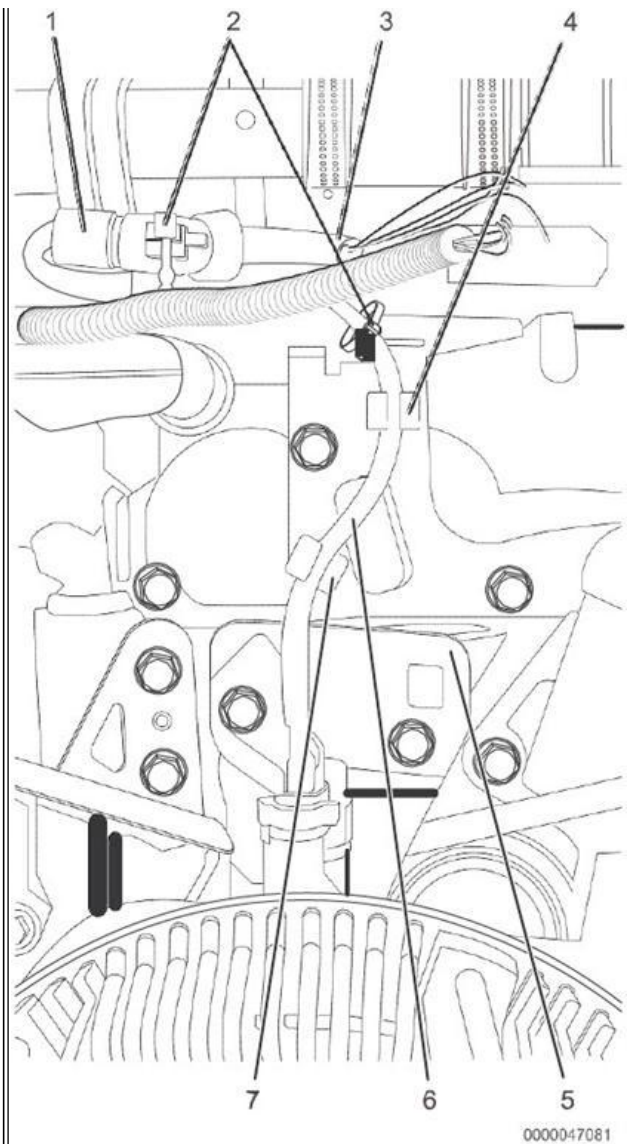

Figure 14 - Fan Clutch Harness
5. Remove two tie straps (*Figure 14, Item 2*) securing fan clutch harness (*Figure 14, Item 6*) to engine harness (*Figure 14, Item 3*) and fan clutch harness bracket (*Figure 14, Item 5*). Discard tie straps.
6. Remove harness from upper and lower push pins (*Figure 14, Items 4 and 7*).
- a. If secured with two push pins, discard lower push pin (*Figure 14, Item 7*)
7. Inspect fan clutch harness (*Figure 14, Item 6a*) for signs of wear from contact with sharp or hard surfaces of harness bracket (*Figure 14, Item 5*).
8. Disconnect harness connector (*Figure 14, Item 1*).